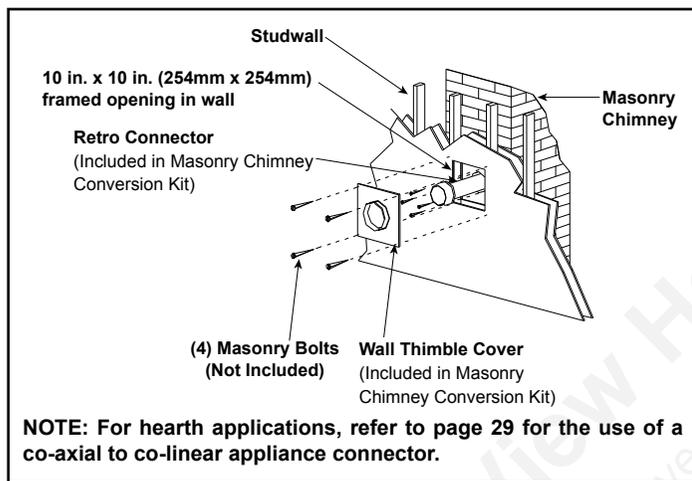
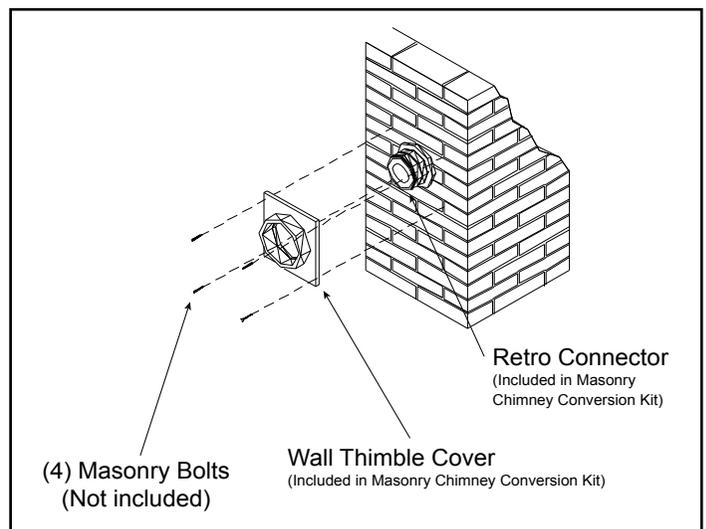

Figure 4.23
Figure 4.28
2. Once the center point of the penetration has been determined, cut a 6 in. (152mm) diameter hole in the masonry. If the hole is too large, the retro connector might not mount properly; if the hole is too small, the appliance might starve for intake air. If there is a frame wall in front of the masonry wall, cut and frame a 10 in. (254mm) square opening in the wall (centered around the 6 in. (152mm) masonry opening). If there is sheet rock only (no studs) in front of the masonry the 10 in. (254mm) opening is still needed, but does not need to be framed. If the hole is framed a wall thimble is required. This allows the retro connector to mount directly on the masonry and provide the correct clearances to combustibles. See Figure 4.23.
- Slide wall thimble cover over retro connector and secure with masonry bolts. See Figure 4.28. If you have a framed wall in front of the masonry, use wood screws to mount wall thimble cover to framed wall, over retro connector and 10 in. (254mm) square framed opening. See Figure 4.23. If needed, add a section of direct vent pipe to the retro connector in order to extend through the opening in the wall thimble cover.